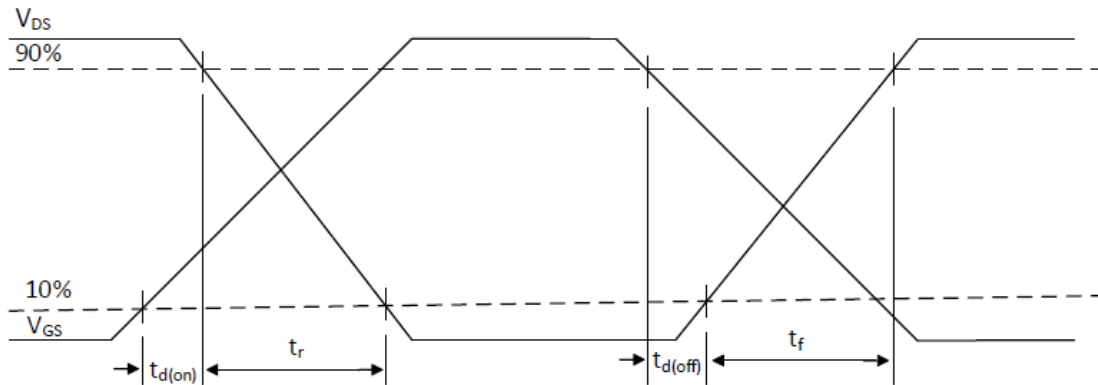

Figure 17: Switching Time Waveforms
(6) See Figure 17 for switching time definition waveforms.
(7) L_P = parasitic inductance.